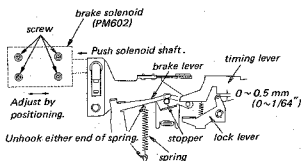

Fig. 3-5. Brake solenoid (PM602) position adjustment
1. Turn OFF the power. Unhook either end of the spring and loosen the four solenoid holding screws. See Fig. 3-5.